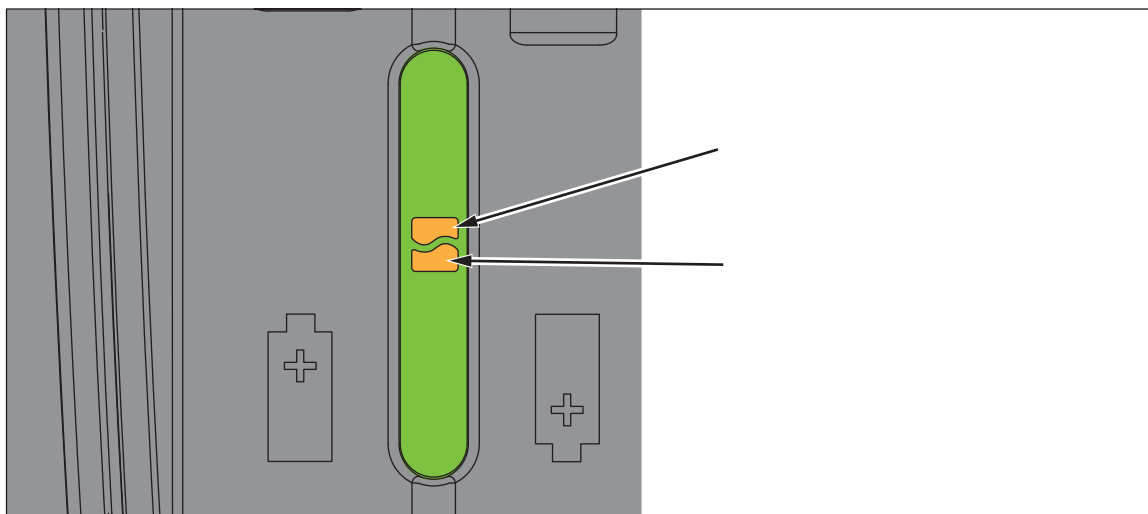

Figure 4. Calibration Activation
7. Use a small jumper to short the two pads together under the calibration sticker. See Figure 4.